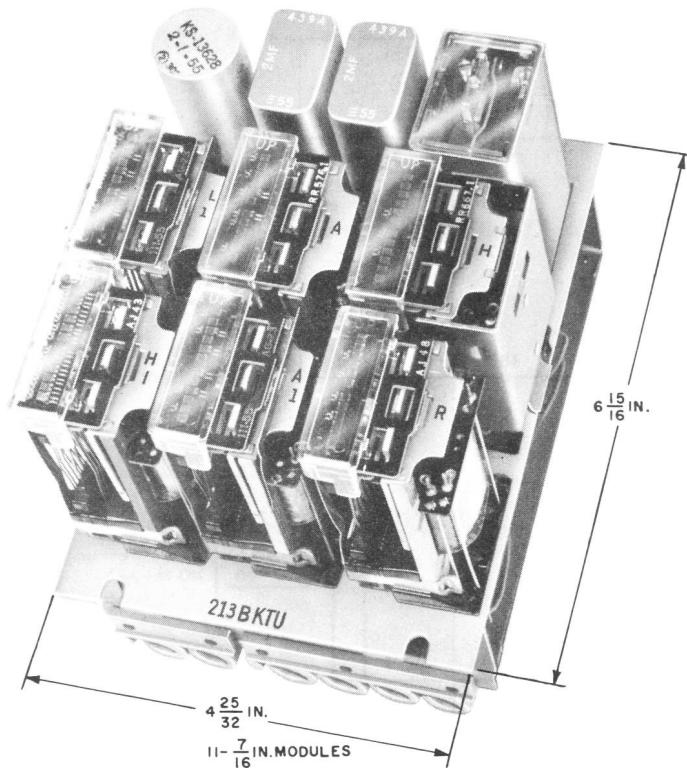

Fig. 1 - 213B KTU, Front View
1.04 The 213B KTU is a panel-mounted unit (see Fig. 1 and 2). It is $4\frac{25}{32}$ inches wide, $6\frac{15}{16}$ inches high, and requires $11\frac{7}{16}$ inch modules on a mounting bar. The relays are designed to operate on 14 to 26 volts dc.